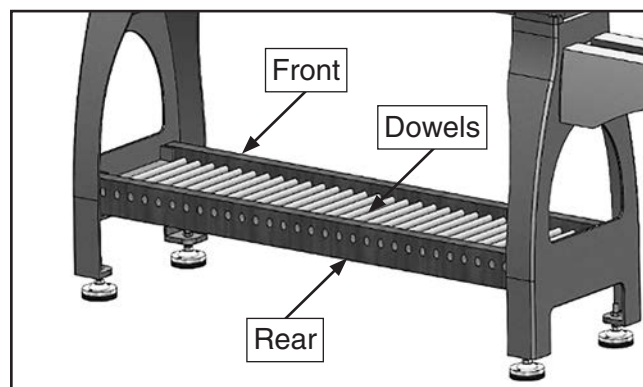

Figure 20. Boards and dowels installed in shelving option three.
2. In one 2x6, drill ⅝" holes all the way through board. This board will be installed on rear of lathe (see **Figure 20**). On other 2x6, drill holes only deep enough to secure dowel rods. This board will be installed on front of lathe.